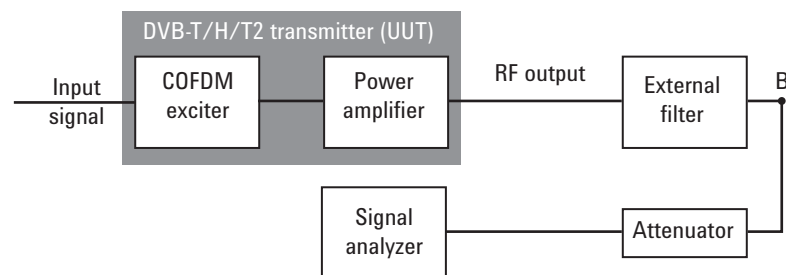

Figure 8. Diagram for spectrum mask measurement on a DVB-T/H/T2 transmitter without an external filter
Method 2: When the transmitter does not have an output filter, an external filter with a band-block filter frequency response should be added after the transmitter for measurement arrangement as shown in Figure 8.
- B. Measure the signal transmitted at point B as shown in Figure 8.